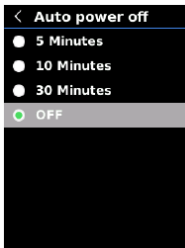

Fig. 20
2. Press the \wedge and \vee buttons to select the desired Auto Power Off option between "Off", "5 Min", "10 Min" or "30 Min" (Fig. 20).